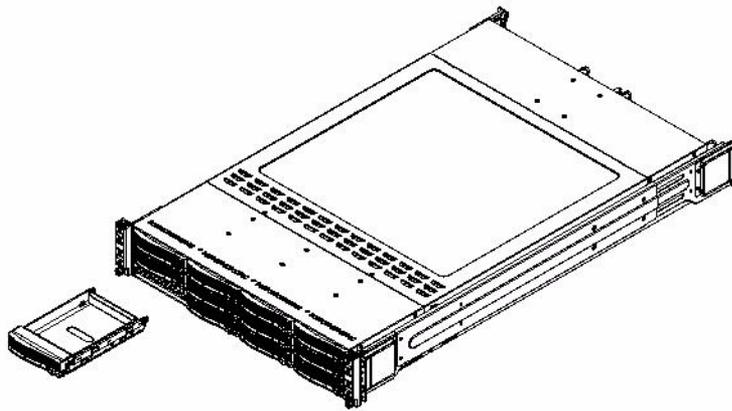

Figure 6-5 Removing a Drive Carrier
2. Swing the handle fully out and use it to pull the unit straight out (See Figure 6-5).